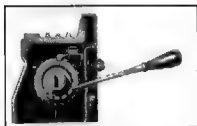

Fig. 51—Adjusting Brakes
3. Remove the adjusting hole covers and insert a screwdriver through the adjusting hole and engage the teeth on the adjusting cover of the wheel cylinder (fig. 51). Turn the adjusting cover in a clockwise direction looking at the end of the cylinder until the shoes